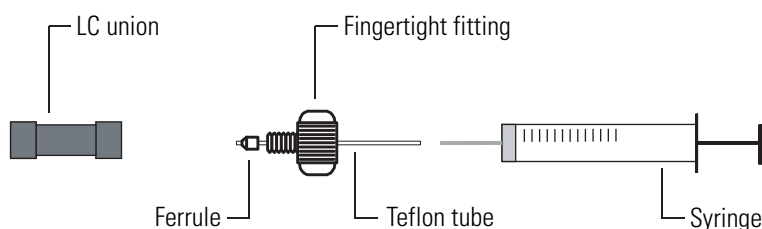

Figure 5-9. Connecting the syringe and the LC union
2. Connect a 4 cm (1.5 in.) length of Teflon™ tubing (0.03 in. ID $\times$ 1/16 in. OD) with a fingertight fitting (for a 10-32 receiving port and 1/16 in. OD tubing) and a ferrule to the LC union. See Figure 5-9.